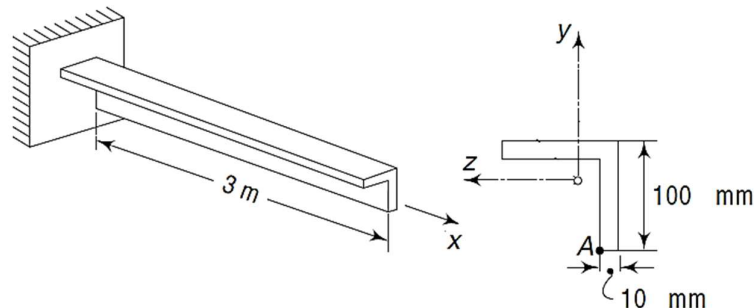

Fig 2
- Q.3 For the fixed equal-leg angle section beam shown in Fig 2, weighing 1.48 N/cm. Now [10] 3 3
- (ii) Find the orientation of the neutral axis (NA) relative to the geometric y-z axes.